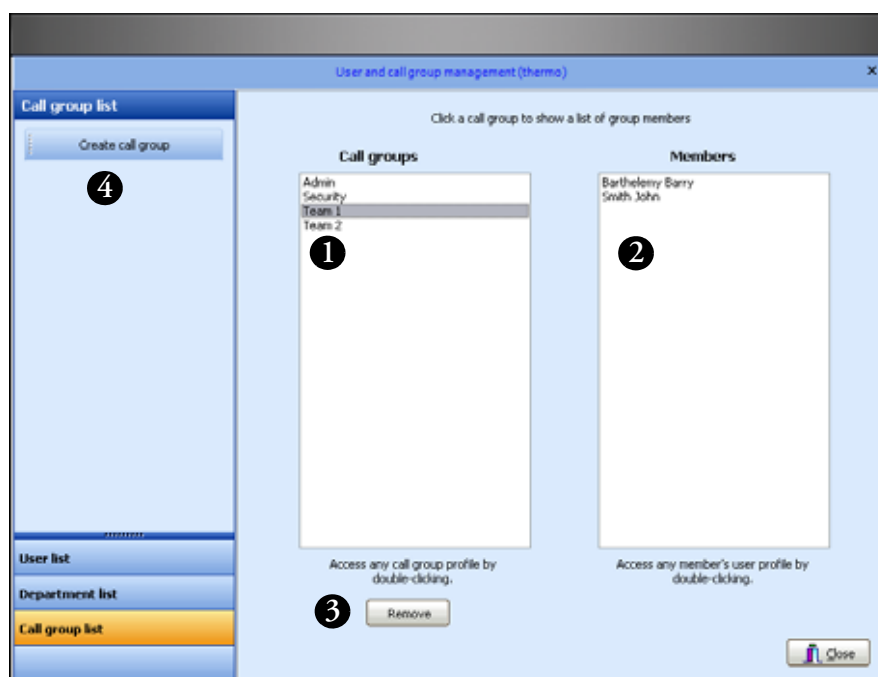

Figure 84. List of call groups for sensor alerts
4. **Click on a call group name in the left-hand panel (#1 in Figure 84) to display the users in that call group in the right-hand panel (#2).**